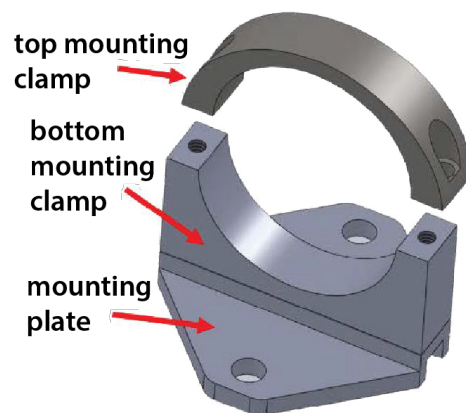
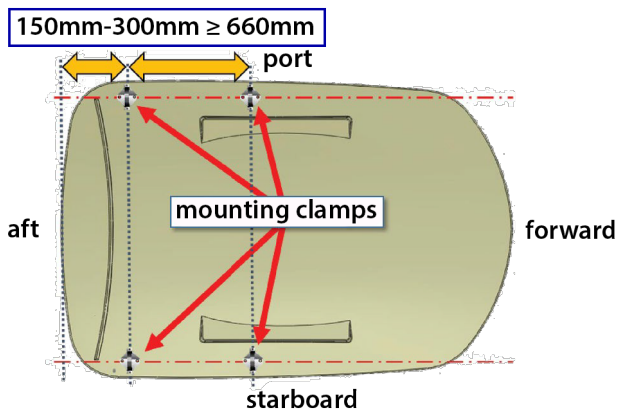

Fig.5
Fig.6
1. Disassemble the four mounting clamps, which may include spacers (Fig.5) depending on installation, by removing the two M6 x 20mm socket head screws from each clamp.
**A.** Remove the top clamp (Fig.5).
C. Place mounting clamps 150mm-300mm (6"-12") from aft of hardtop (Fig.6). Spacing between forward and aft mounting clamps should be no less than 660mm (26") (Fig.6).
2. Position the four bottom mounting clamps (Fig.5) along the predetermined lines on the hardtop (Fig.6).